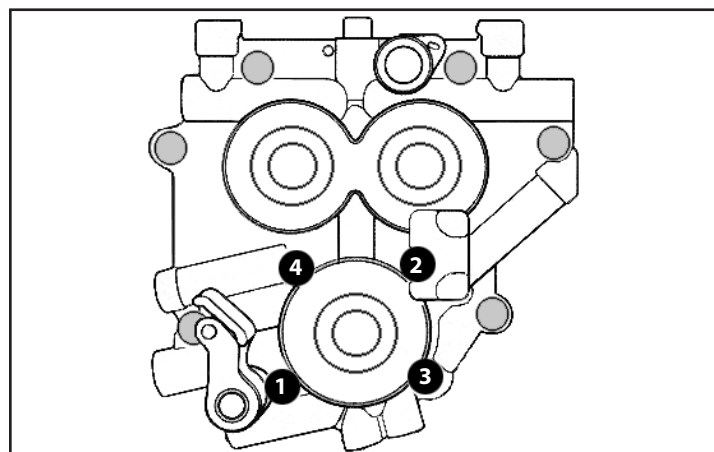

Figure 1
9. Gradually loosen and remove four oil pump bolts according to sequence shown in **Figure 1, below left.**
- d. Tighten bolts to 90-120 in-lbs. in sequence illustrated in Figure 1 on page 5.